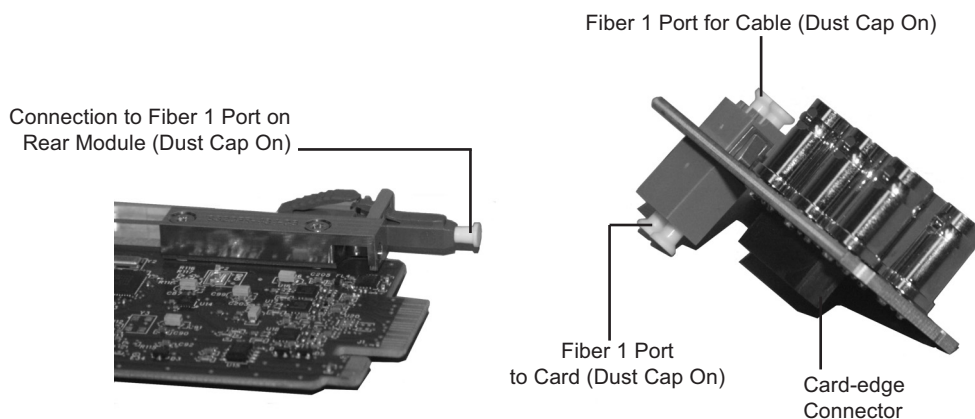
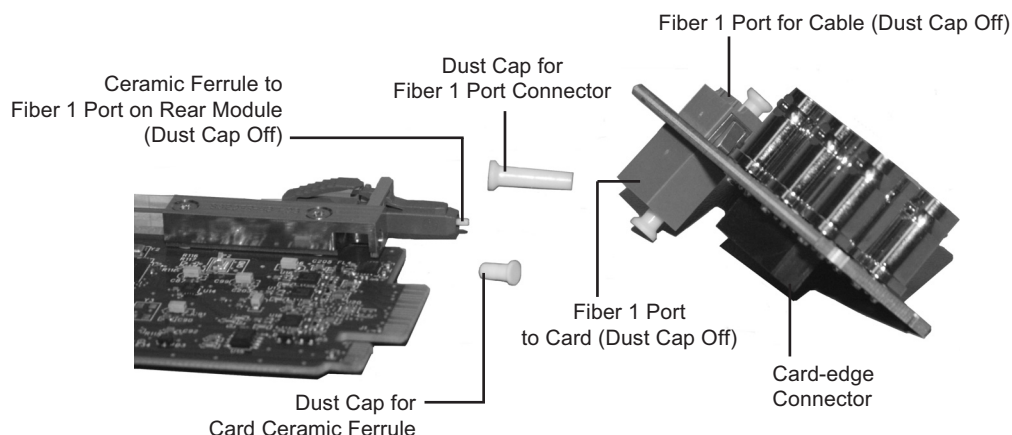

Figure 2.1 Card Connectors with Dust Caps Installed — MUX-6258-A
Figure 2.2 Card Connectors with Dust Caps Removed — MUX-6258-A
- Connectors must always be inserted into a device or have a dust cap on. Refer to **Figure 2.1** for dust cap locations.
3. Remove the dust caps from the Fiber ports on the Rear Module that face the interior of the frame. Refer to **Figure 2.1** and **Figure 2.2** for dust cap locations.
- Refer to **Figure 2.1** and **Figure 2.2** for dust cap locations.